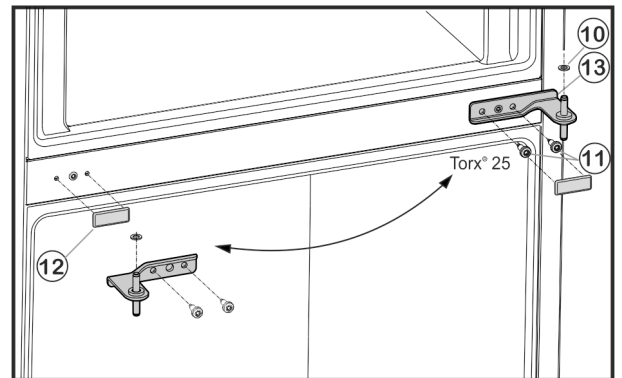

Fig. 6
- ▶ Unscrew the fastening screws Fig. 6 (11) (2 x Torx® 25) and pull the centre bearing block out of the lower door.
- ▶ Remove plastic washer Fig. 6 (10).
- ▶ Remove the cover Fig. 6 (12) carefully.
- ▶ Re-install the cover Fig. 6 (12) on the opposite side.
- ▶ Insert the centre bearing block *Fig. 6 (13)* turned through 180° into the lower door and fasten firmly (**with 4 Nm**) to the new hinge side with the fastening screws *Fig. 6 (11)* (2 x Torx® 25).
- ▶ Refit plastic washer *Fig. 6 (10)*.
- ▶ Set the upper door down on the centre bearing block *Fig. 6 (13)*.